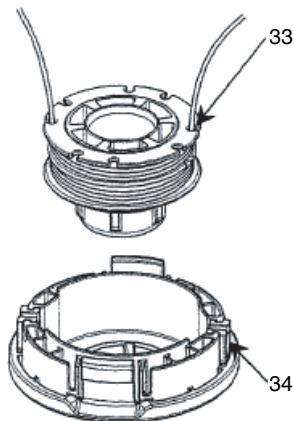

Fig. 40
- (5) Insert both loose ends of the line through the cord guide (34) when placing the reel in the case. (Fig. 40)